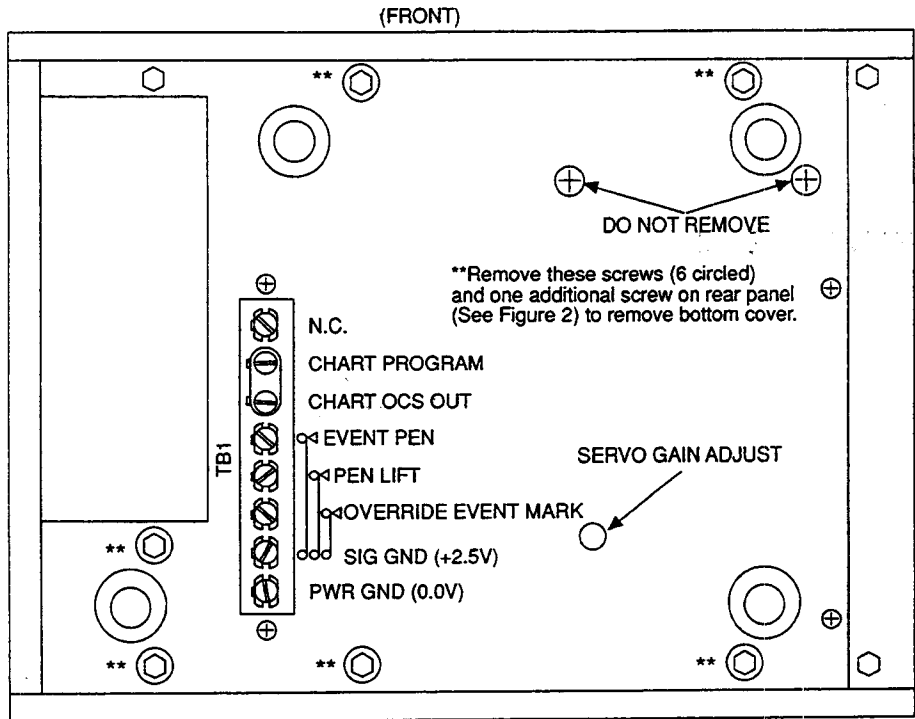

Figure 2-1. Bottom Panel
Recorders are shipped ready to operate on a nominal ac voltage of 155 Vac and 60 Hz. To convert to 230 Vac and 50 Hz, move a slide switch (inside the instrument) to the proper position and install the correct fuses (0.15a). See Figures 2-1 and 2-2 for access.
2.2.6 Recording Procedure (See Figures 2-1 and 2-3)
1. PRELIMINARY SET-UP (See Figures 2-1, 2-2, 2-3 and 4-1)
- Remove the bottom cover retaining screws (7), to allow access to the calibration adjustments.
- Set all (3) internal adjustment potentiometers (pots) to mid-range.